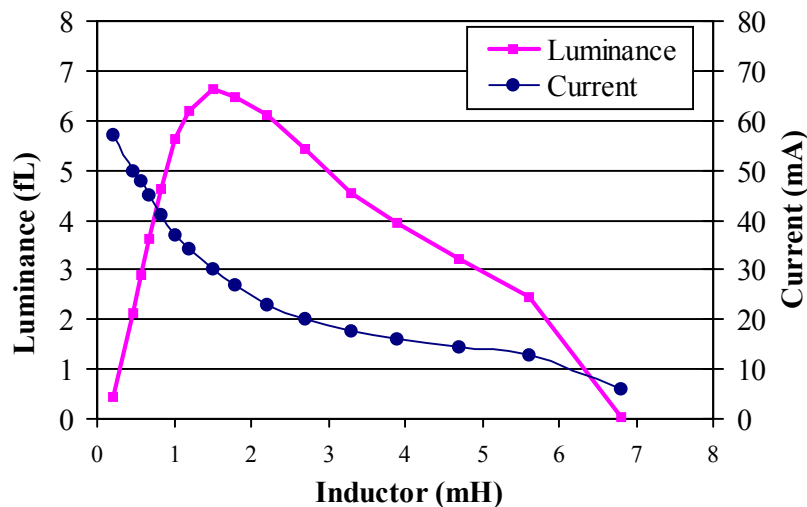

Figure 3: Brightness and current vs. inductor value.
The external inductor (L) selection for a D365A circuit greatly affects the output capability and current draw of the driver. A careful designer will balance current draw considerations with output performance in the choice of an ideal inductor for a particular application. Figures 3 and 4 show typical brightness and current draw of a D365A circuit with different inductor values, lamp sizes, and supply voltages while keeping HF and LF constant. Please note that the DC resistance (DCR) of inductors with the same nominal inductance value may vary with manufacturer and inductor type. Thus, inductors made by a different manufacturer may yield different outputs, but the trend of the different curves should be similar. Lamp luminance is also a function of lamp size. In each example, a larger lamp will have less luminance with approximately the same current draw.